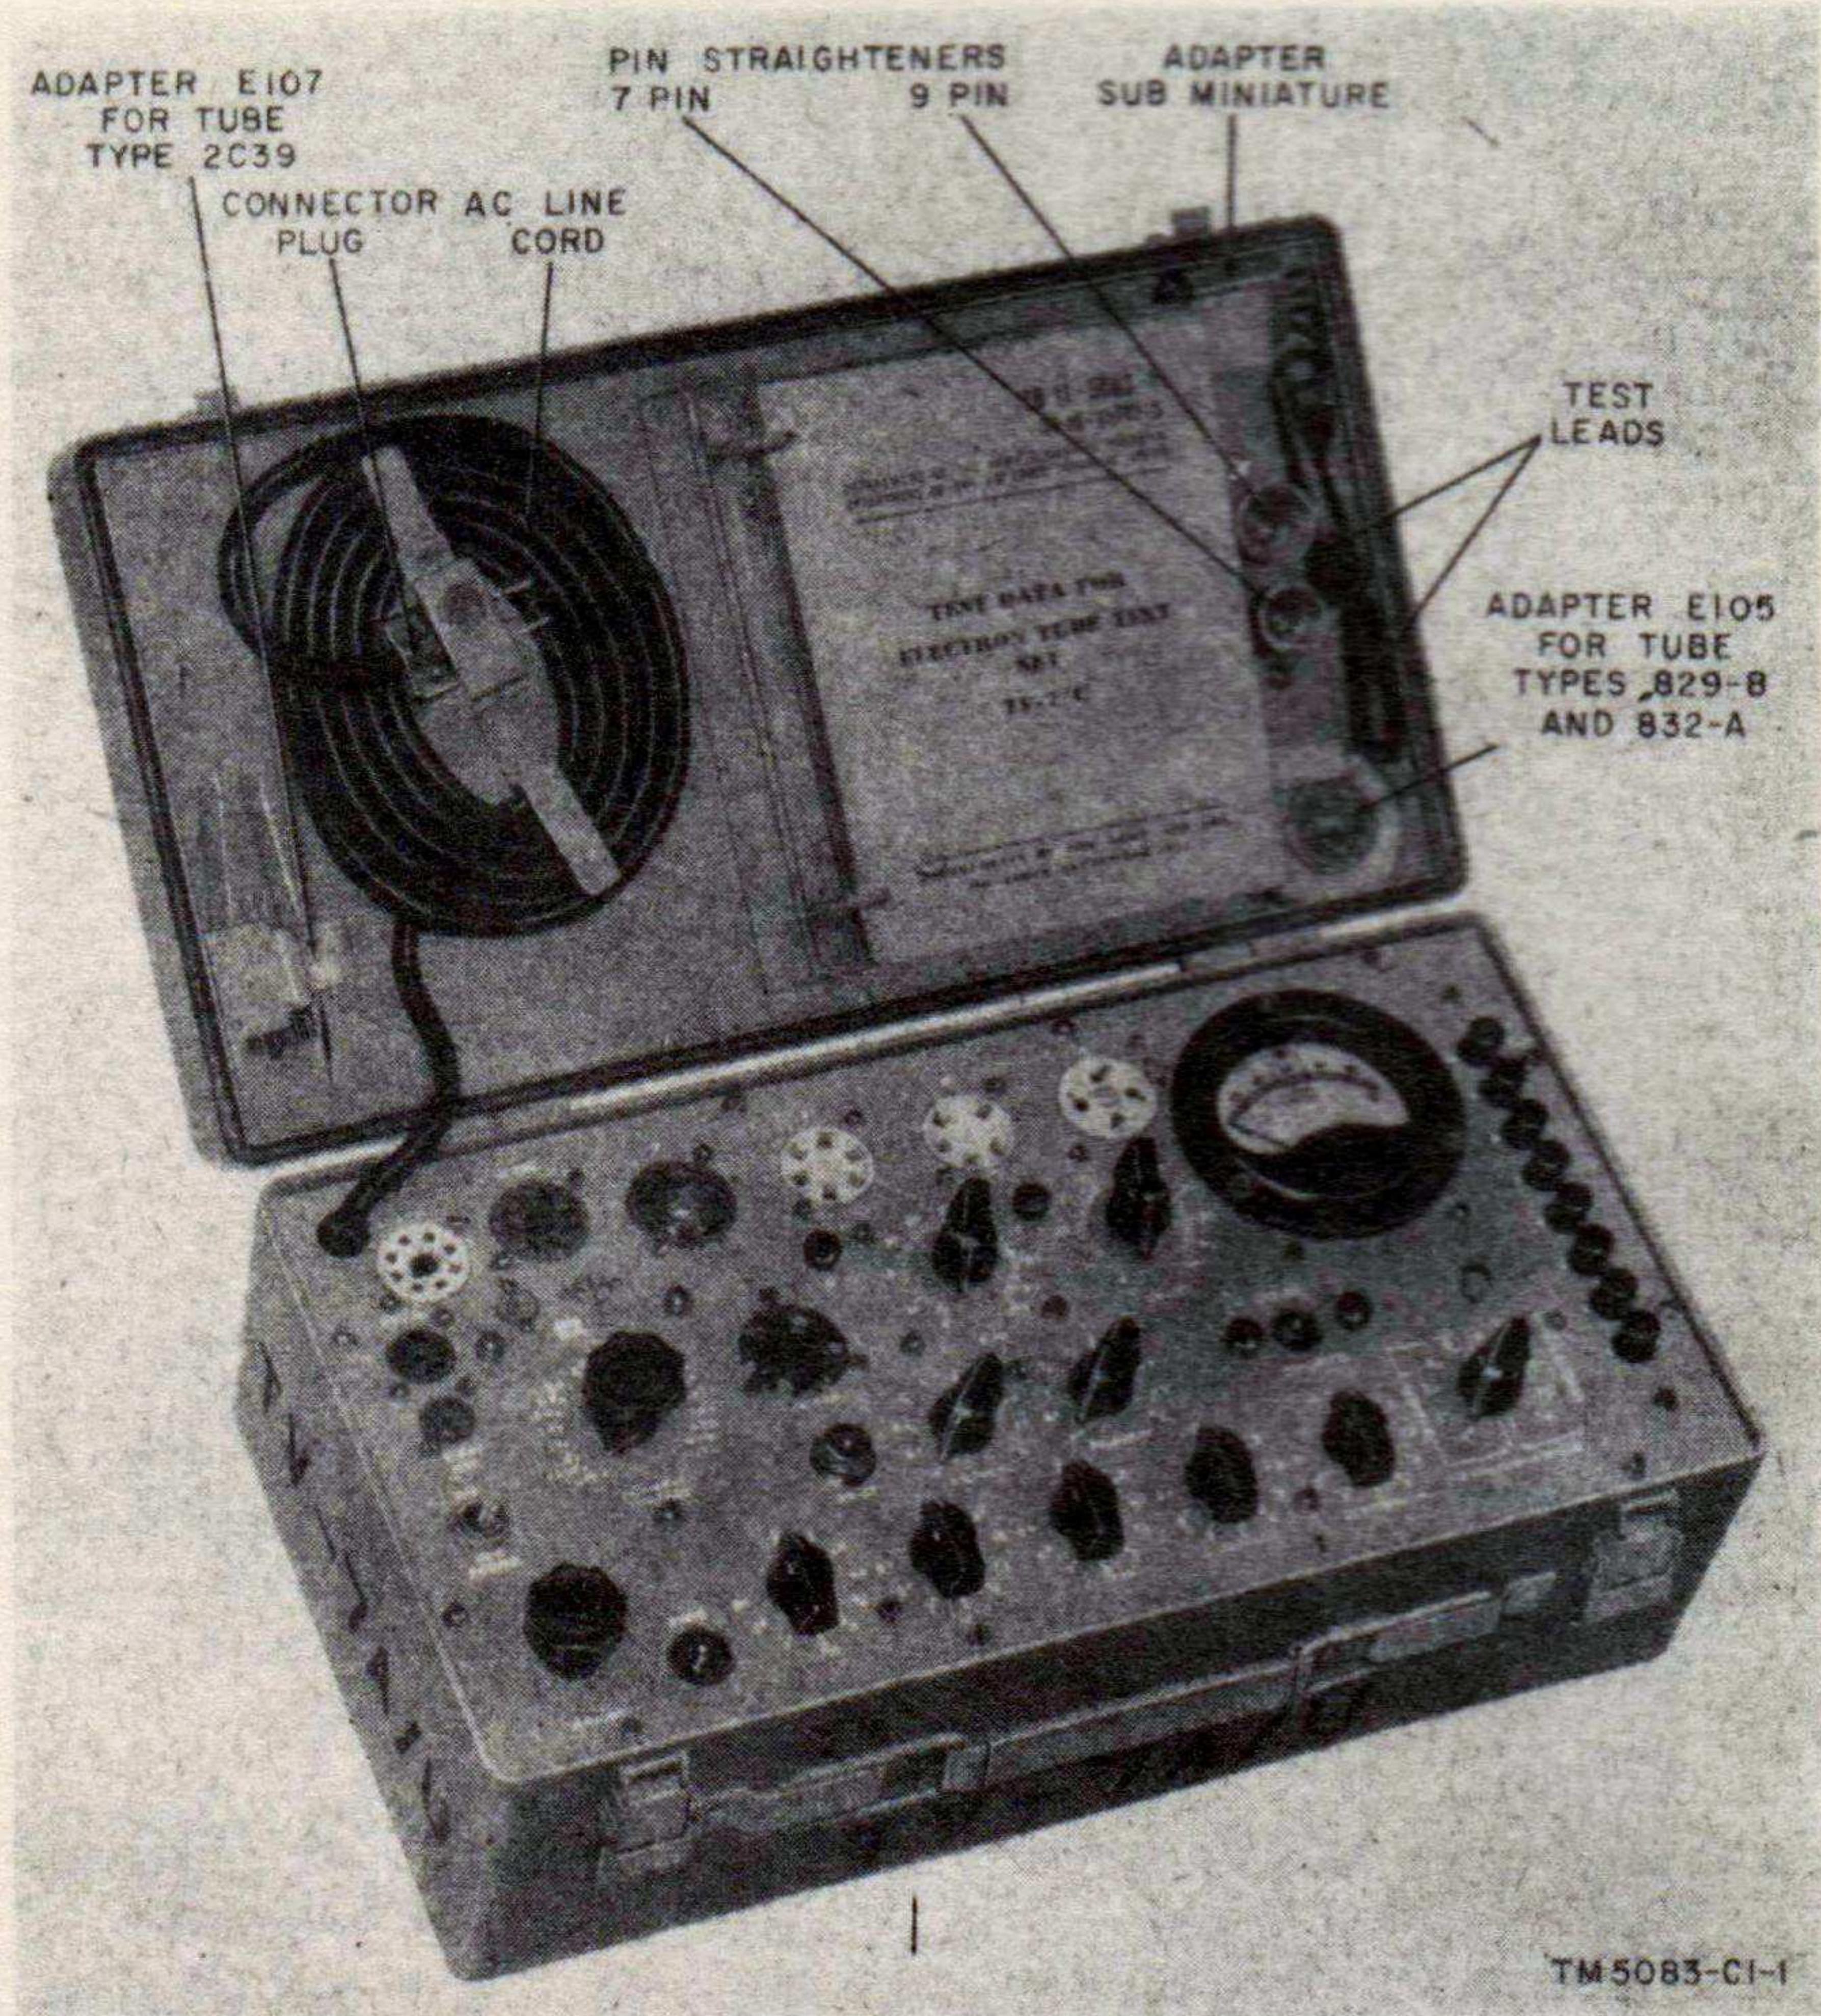

Figure 2.1 (Added). Electrom Tube Test Set TV-7A/U, cover open.
*Note. (Added) On the TV-7A/U, the markings of the BIAS and SHUNT controls are etched into the test set panel (fig. 2.1).*